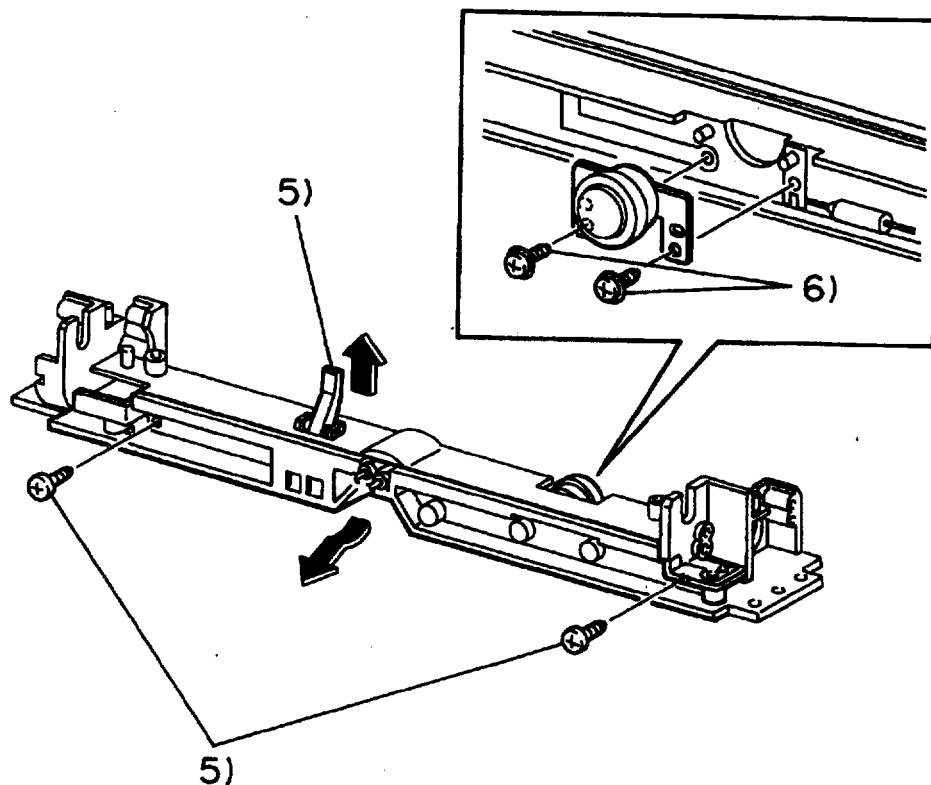

Figure 4-21. Removing the Overheat Thermostat
4. Remove the 2 screws securing the Overheat Thermostat (Figure 4-21).